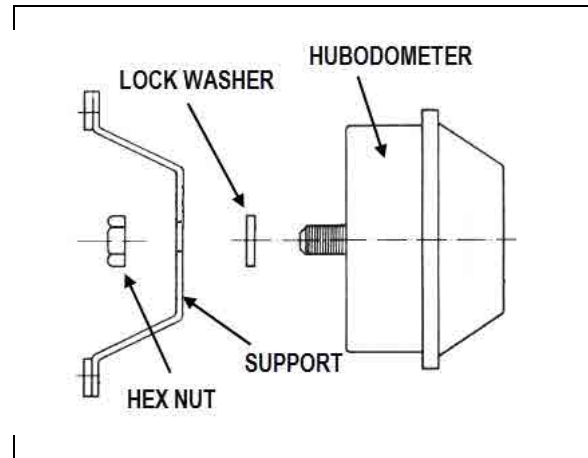

Figure 5
- 6) Let the paint dries and reinstall the hubodometer on the support. Make sure the lock washer is located between the hubodometer body and the support and tighten the hex nut to 15ft-lbs. Do not clamp hubodometer in a vise (Figure 5).